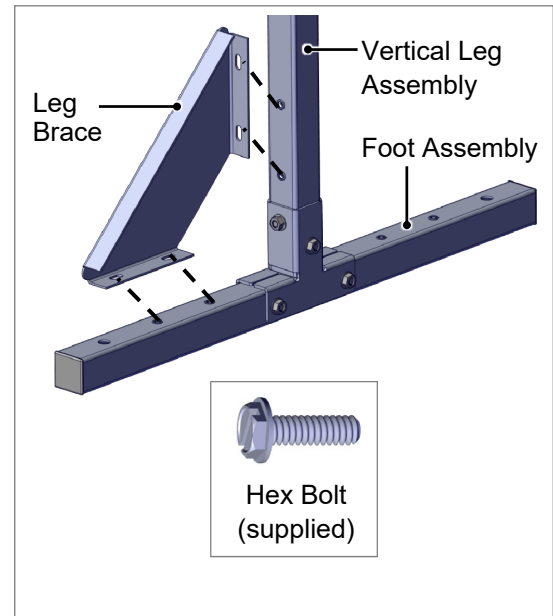

Fig 6. Attach Leg Brace
4. Attach one Leg Brace to the Vertical Leg Assembly/Foot Assembly with four (4) Hex Bolts (Fig 6). Repeat this step on the other side.